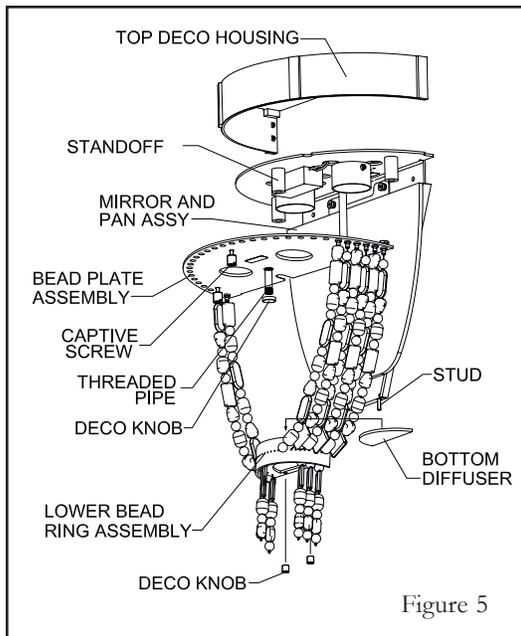

Figure 5
Step 6 Install the decorative bead assembly onto the backplate. Handle the stranded beads with care as they are easily damage and can become tangled. Align the upper bead plate with the three standoffs and secure into position with the captive screws. (See Figure 5)
Step 7 Install bottom diffuser into the upper portion of the lower bead assembly ring. Slide the glass diffuser beneath the retainer tabs. Align the lower ring assembly over studs and secure into position with decorative knobs. (See Figure 5)
Step 9 Install the top deco housing by aligning the cover over the electrical assy and lowering into position. Carefully reach through the bead strands and align the steel nipple through the center of the electrical assembly plate and secure into position with decorative knob. (See Figure 5)